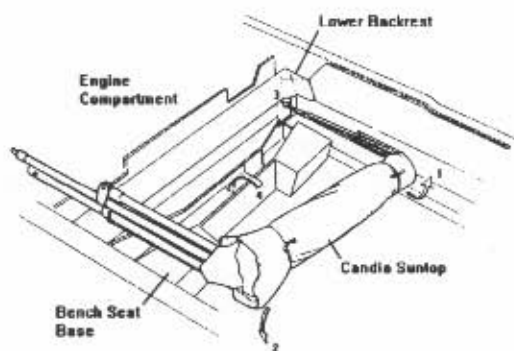

Figure L5 : Candia Suntop Storage
2. Position one bow down into the seat base (at an angle) and into the hole provided in the corner of the carpeted bulkhead. Refer to Figure L5.